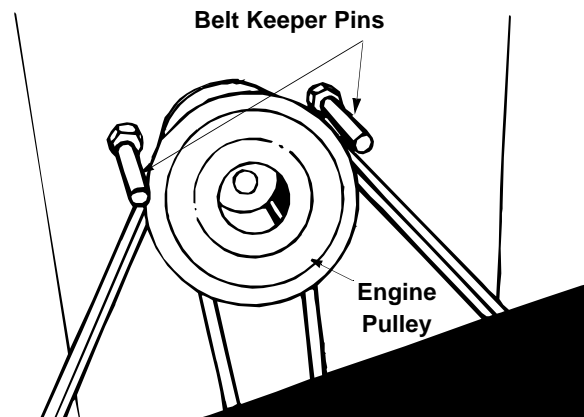

Figure 22
NOTE: Figures 22, 26 and 27 are shown with the unit tipped up for clarity. It is not necessary to tip the unit to remove the belts.
NOTE: When reassembling, make certain belt keeper pins are assembled in the same locations from which they were removed. See Figure 22.
- Remove the belt keeper pins from the lower frame. See Figure 22.
- Remove the belt keeper pins from the engine pulley belt guard. Refer to Figure 22.
NOTE: Make certain belt keeper pins are reassembled as shown in Figure 22.
NOTE: When reassembling, make certain belt is inside the belt keeper pins. See Figure 22.